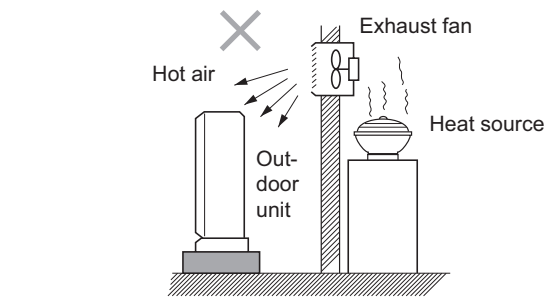

Fig. 1-3
- heat sources, exhaust fans, etc. (Fig. 1-3)